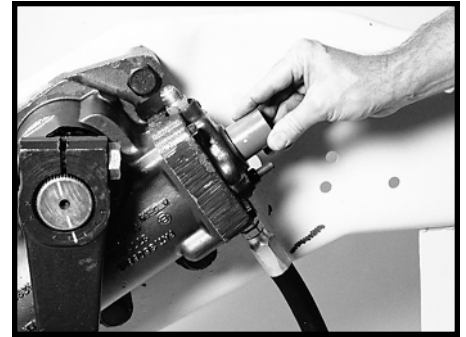

Figure 26
- 2.7 Apply clean grease to the new input shaft seal assembly (7 and 8), the washer (6) and to the input shaft. Install the new two-piece seal (7 and 8) flat side up and the steel backup washer (6), using seal driving tool J26653. SEE FIGURE 26. Install the retaining ring (5).